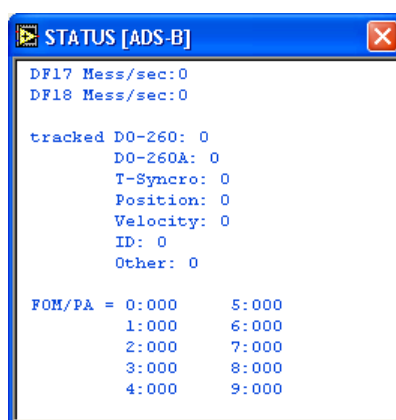

Figure 73: ADS-B Status window
*Note: The status windows can be used to get the configuration parameters set for best performance. The configurable parameters, together with site setup and conditions, have an influence on Coverage, Probability of detection, Plot Quality, RIM782 Processing Load, ... The optimal parameters setting will depend on what is desired to be detected. Figure 68 shows a configuration as described in heading 2.2 of [IE-UM-00054-002 ADS-B 1090ES Extractor] tuned for maximum number of tracked detections (see Figure 73) during peak traffic over Belgium.*